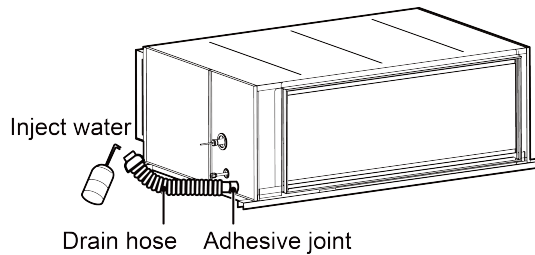

Fig.4.3.10
1) Connect the drain hose to the other drain connection pipe of water tray and fill about 1L water (as shown in Fig.4.3.10). (Remove the drain hose after finishing testing and then put on the plug of water tray).